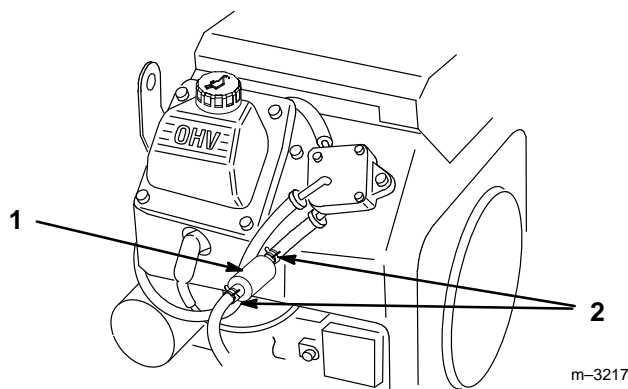

Figure 14
3. Squeeze the ends of the hose clamps together and slide them away from the filter (Fig. 14).